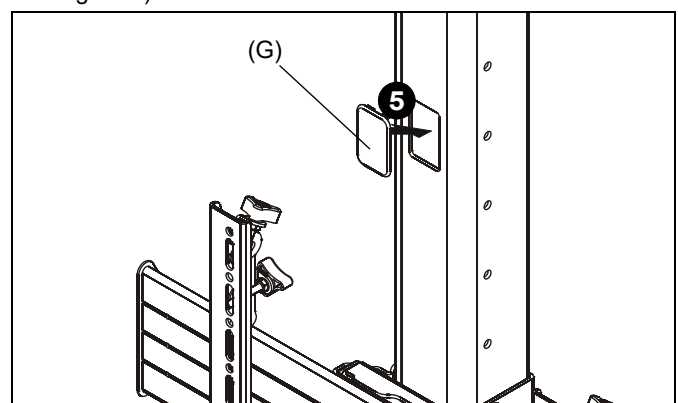

Figure 8
5. For any cable management holes that are not used, snap covers (G) may be used to cover holes as desired. (See Figure 8)